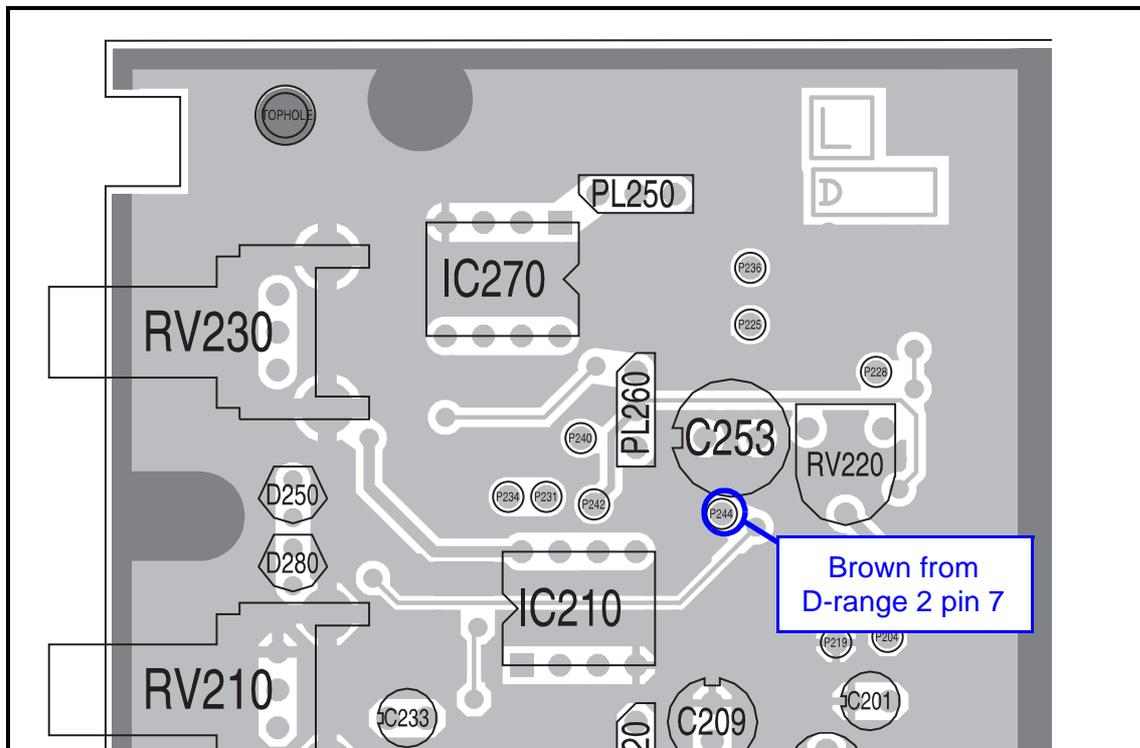

Figure 1 Top of T835 Receiver Audio Section
4. Connect the brown wire (Audio FFSK Out) to P244, as shown in Figure 1.